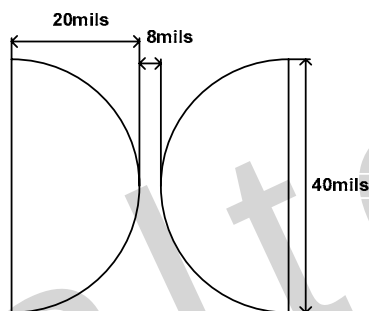

Figure 33. Spark Gap Design
- We suggest two spark gap pads that have half circles with a radius of 20 mils, and with a gap between each of 8 mils. The pads must not be covered with solder mask (copper exposure) and the gap area must be open to the air. The spark gap design is shown in Figure 33